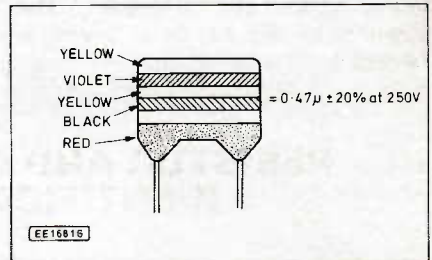

Fig. 2.8. Example of capacitor colour coding.
Fig. 2.8 gives an example of the use of Table 2.1 in evaluating a $0.47\mu\text{F}$ capacitor. The top two bands (tens and units), yellow (4) and violet (7), mean that the capacitance value is 47 multiplied by the value represented by the yellow third band (10,000pF) in the "multiplier" column of the table. $47 \times 10,000$ evaluates to 470,000pF which is $0.47\mu\text{F}$ (by shifting the decimal point six places to the left). This capacitor has a 20 per cent (black fourth band) tolerance and a maxi-